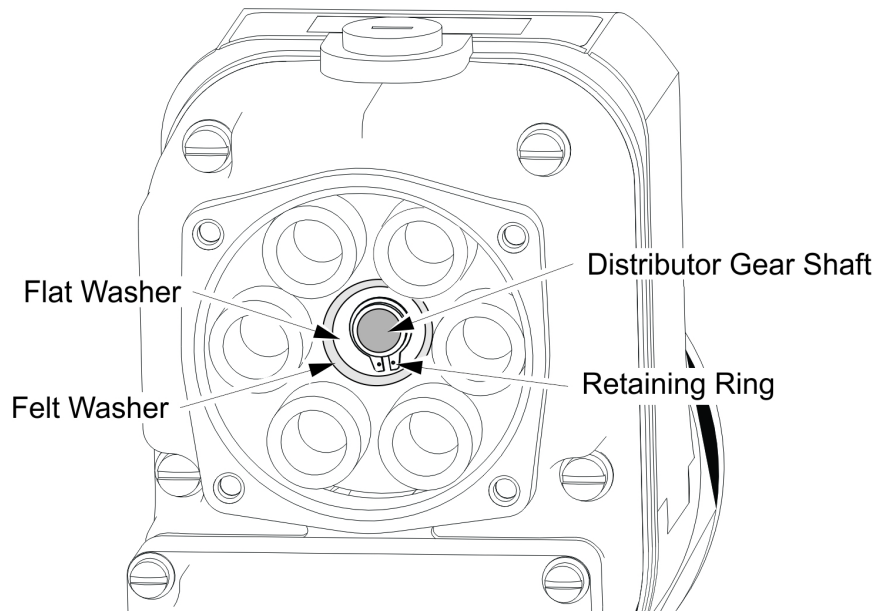

Figure 1. Distributor Block
3. Once the magnetos are accessible, remove the ignition harness plate screws and plate from the magneto distributor housing to expose the end of the distributor gear shaft, the felt washer, flat washer, and shaft retaining ring (see Figure 1).